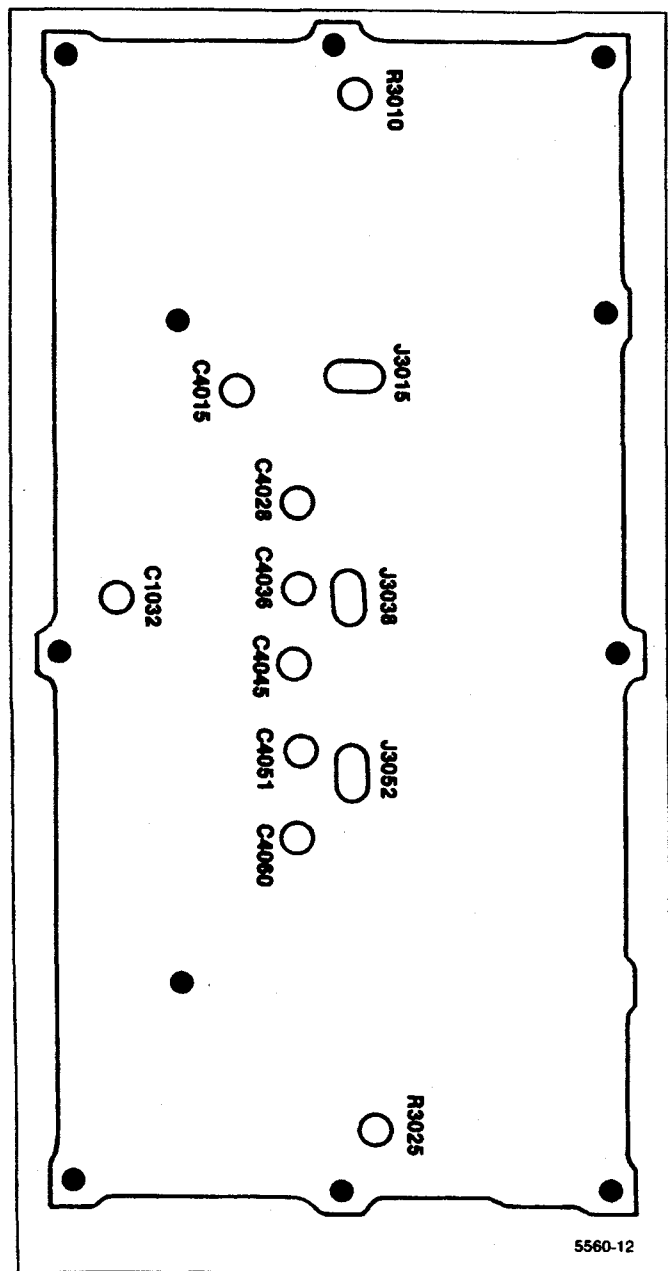

Figure 5-18. Adjustments on the 10 Hz/100 Hz Bandpass Filter assembly.
(1) Set the following adjustments to midrange: R4025 on the VR 2nd Filter Select board, and R3010 and R3025 in the 10 Hz/100 Hz Bandpass Filter assembly.
(2) Install jumpers on J3015, J3038, and J3052 in the 10 Hz/100 Hz Filter assembly (Figure 5-18).
(3) Apply the CAL OUT signal to the RF INPUT, and set the Spectrum Analyzer controls as follows:
(5) Set TIME/DIV to 50 ms. (6) Adjust R3010 in the 10 Hz/100 Hz Bandpass Filter assembly (Figure 5-18) for maximum signal amplitude.
(7) Adjust R3025 in the 10 Hz/100 Hz Bandpass Filter assembly for maximum signal amplitude.
(8) Remove the jumper from J3015 (1st stage of the bandpass filter) in the 10 Hz/100 Hz Bandpass Filter assembly.
(9) Adjust C1032 in the 10 Hz/100 Hz Bandpass Filter assembly for maximum signal amplitude.
(10) Set the Spectrum Analyzer controls as follows: